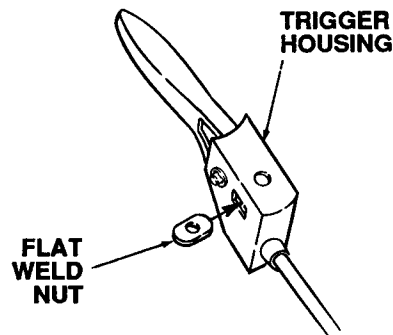

Figure 7-16. Inserting Flat Weld Nut.
5. Slide the flat weld nut (8, Fig.7-9) into the trigger housing. See Figure 7-16.